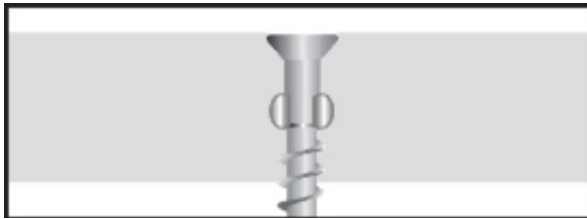

FIGURE 1
3.1.4.1 General: ResinDek® shall be installed with the label side of the panel facing upward. The panels shall be installed on corrugated metal deck by using a screw gun with operable clutch. The screw heads shall be driven to just below the panel surface (Noted in Figure 1 of this report).